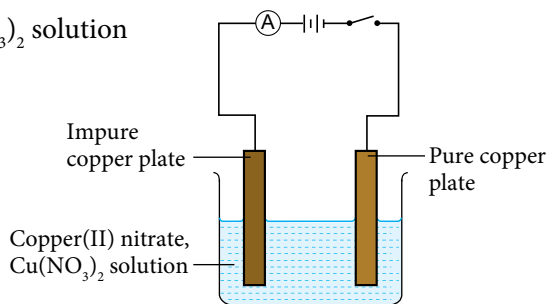

Figure 1.34
- Pour 1.0 mol dm^{-3} of copper(II) nitrate, $\text{Cu}(\text{NO}_3)_2$ solution into a beaker until half full.
- Connect the pure copper plate to the negative terminal of the battery and the impure copper plate to the positive terminal of the battery as shown in Figure 1.34.